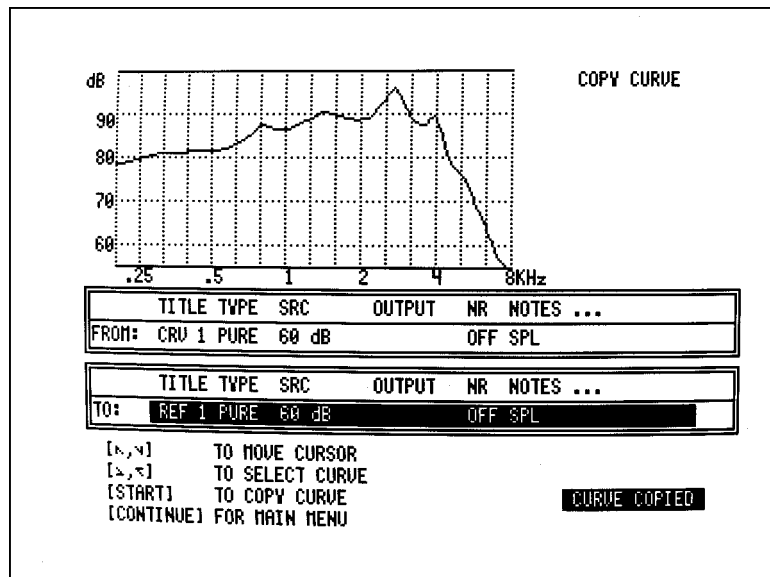

Figure 7.12.8—Copy Curve display
2. Press [START] to enter Copy Curves Mode. See Figure 7.12.8.